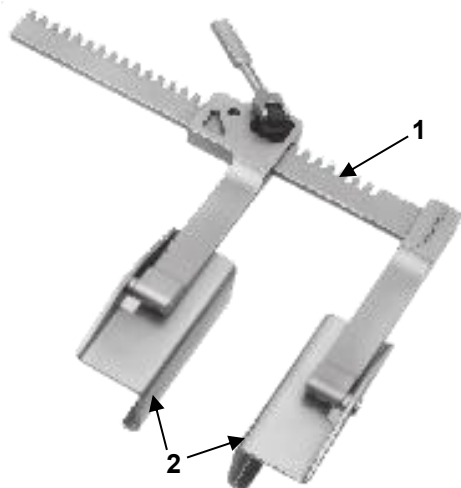

Fig. 2: Example of a total sternotomy
Figures 2 – 4 show various configuration examples for a retractor system comprising the MARJAN MGH retractor frame (1), and Table 1 lists the corresponding retractor blades (2-5).